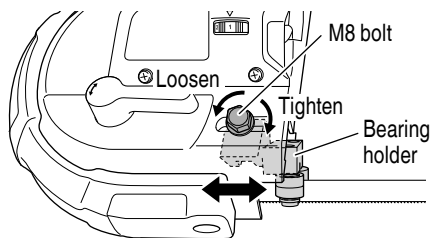

Fig. 12
3. Adjusting the positions of bearing holders (Fig. 12)